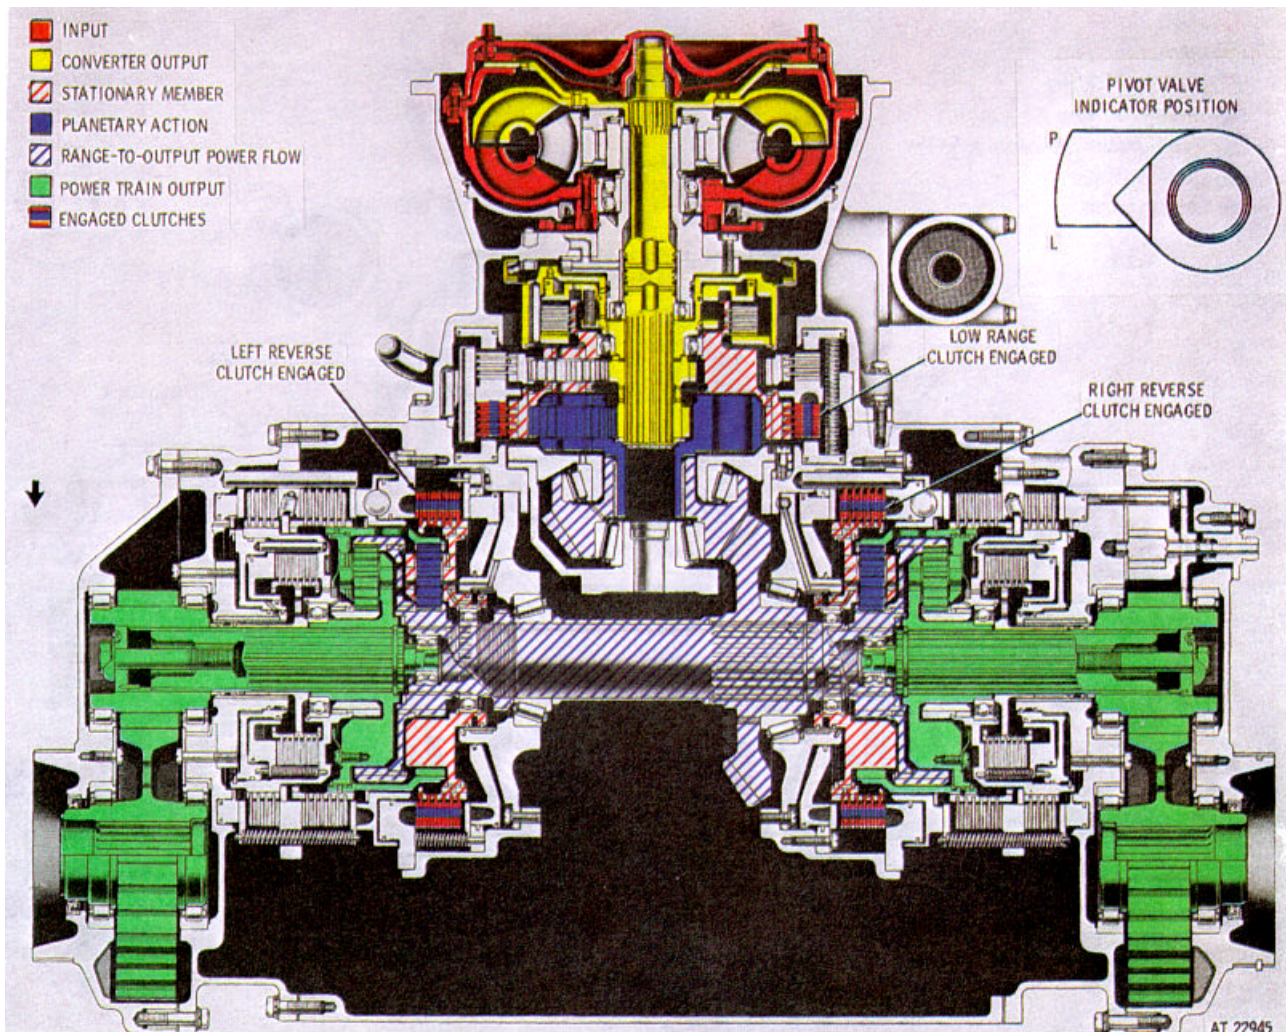

Figure 2-19. Reverse-1 gear, straight travel operation-torque path.
(2) In the output sections, the output clutches are engaged and operate as explained in *b* (1), above. Thus, there is direct drive from the turbine shaft to the bevel drive gear, a 1.444 to 1 speed reduction in the bevel gears, direct from the bevel-driven gear to the output shafts, and a 2.222 to 1 speed reduction in the output reduction gears. The total mechanical speed reduction from the converter output shaft to the transmission outputs is 3.209 to 1. At output stall, the total torque ratio available (output-to-engine) is 2.6×3.209 8.343 to 1.
e. Reverse-1 Gear-Straight Travel (fig. 2-19).